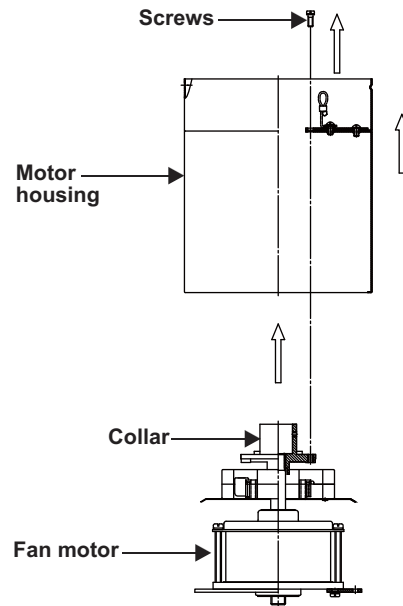

Figure 4
1. Remove the motor housing from the fan motor by removing the two screws from the rim of motor housing. (Fig. 4)